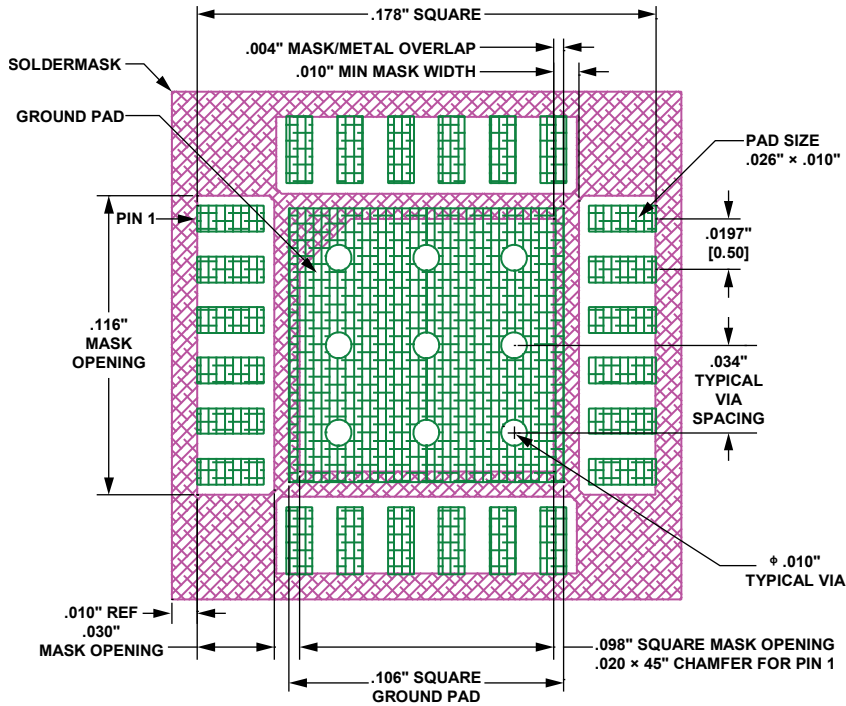
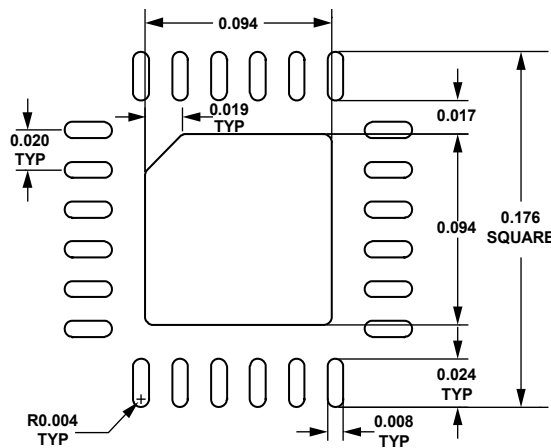
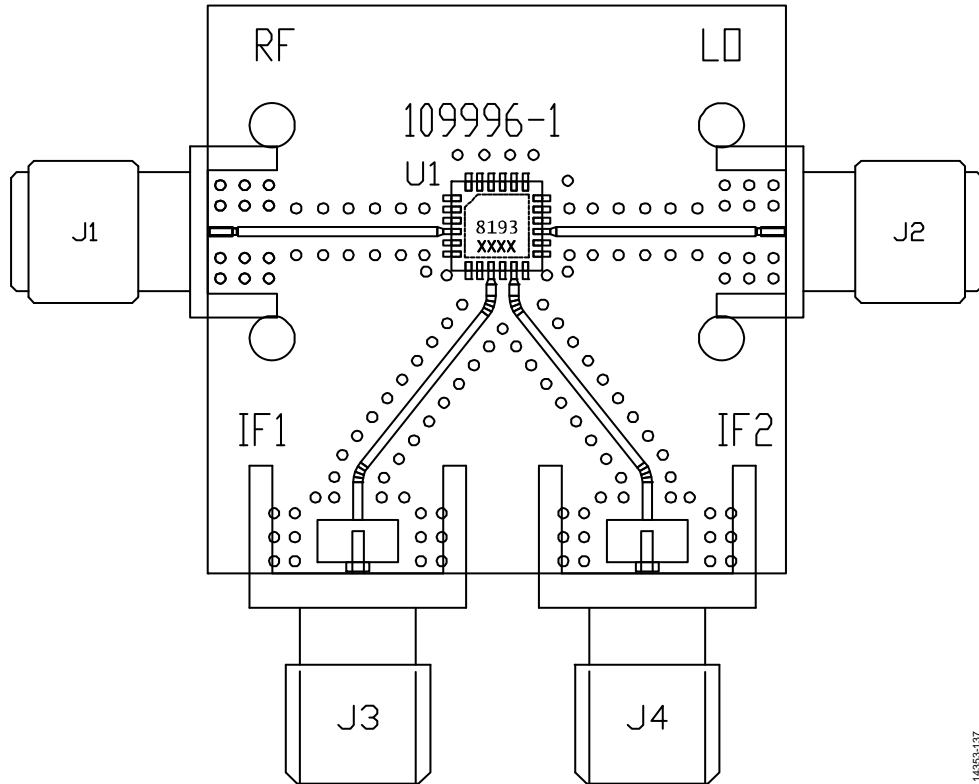

Figure 119. Evaluation Board Land Pattern for the HMC8193 Package
Figure 120. Solder Stencil for the HMC8193 Package on the HMC8193 Evaluation Board
Figure 121. EV1HMC8193LC4 Evaluation PCB, Top Layer
Figure 119 and Figure 120 show the recommended land pattern and solder stencil for the HMC8193, respectively. The HMC8193 is contained in a 4 mm × 4 mm, 24-terminal, ceramic, LCC package, which has an exposed ground pad (EP). This pad is internally connected to the ground of the chip. To
shown in Figure 119. Use a sufficient number of via holes to connect the top and bottom ground planes. The evaluation circuit board shown in Figure 121 is available from Analog Devices upon request.